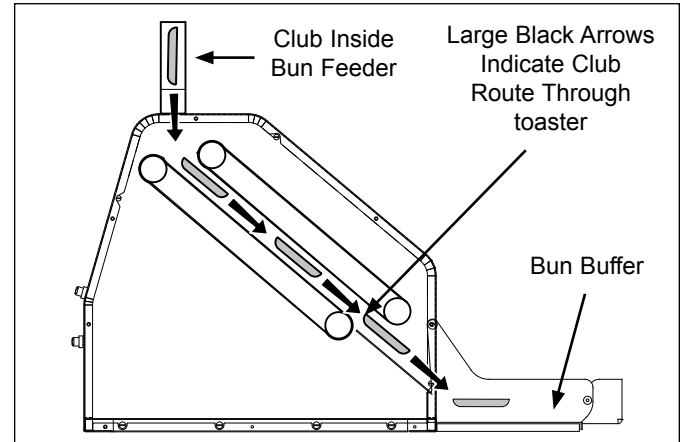

Figure 5. CTX-200L Toasting Route
2. Insert the club into Bun Feeder (Figure 5).